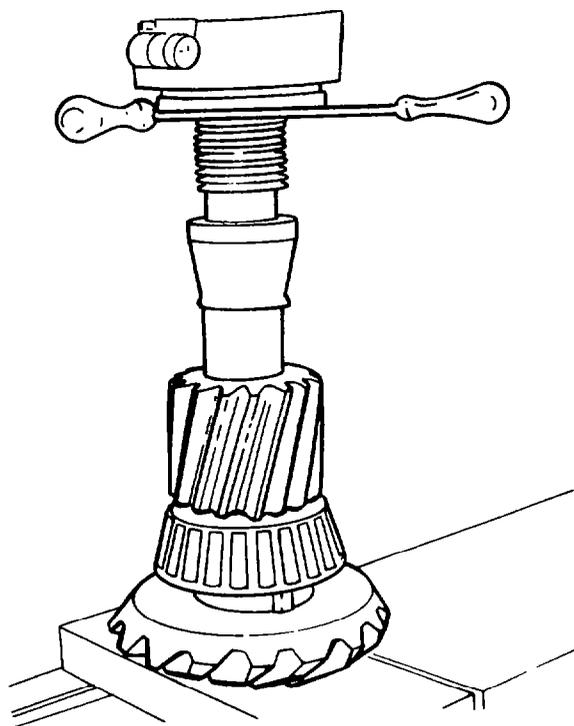

Fig. 316 — Installing Pinion Gear onto Shaft
- e. Align the pinion gear keyway with the key in the shaft, then press the gear onto the shaft using the hydraulic press (see fig. 316).